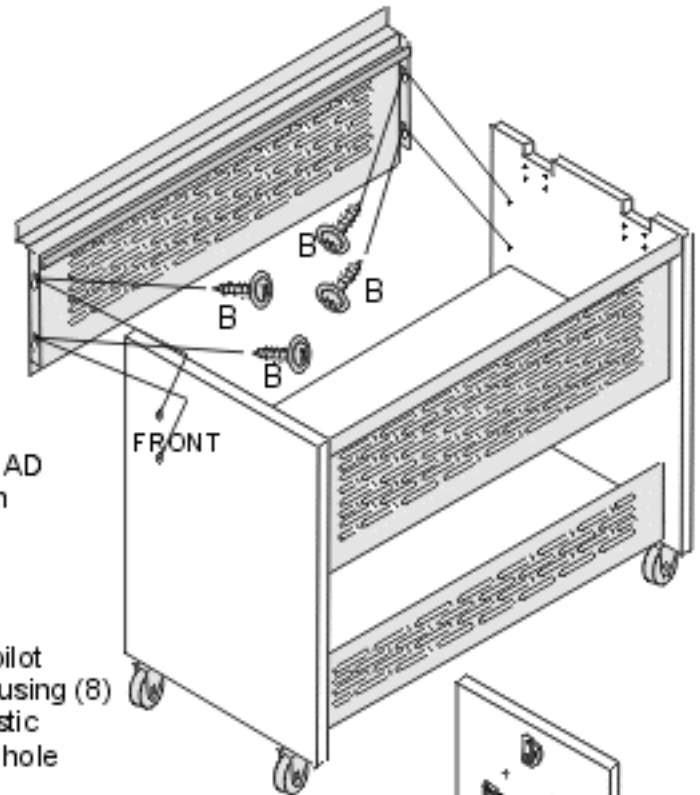

FIG. 5
Align and attach (2) PERFORATED STEEL FILE SIDES to FRONT and BACK PANELS using (4) #8 x 7/16" WASHER HEAD SCREWS (B) as shown FIG.5. For proper installation flange on FILE SIDES should rest on top surface of MIDDLE SHELF.